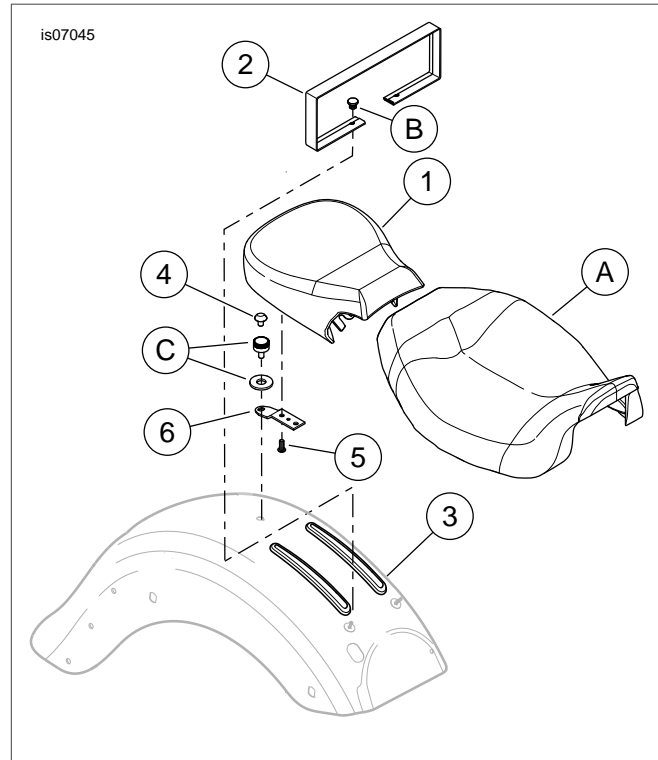

Figure 2. Service Parts: Touring Pillion
See Figure 2 and Table 1.
1. See Figure 2. If installed, remove seat mounting nuts (B) and the solo seat (A).
2. Install grab strap (2) onto the studs where the seat mounting nuts were removed.
3. Install the solo seat (A) and seat mounting nuts (B) over the grab straps.
4. Install touring pillion, through the grab strap (2), to the seat mounting nuts by sliding the two slots in the pillion base into the grooves on the seat mounting nuts. Verify that the tab at the front of the seat engages the slot.
1. See Figure 2. Remove seat mounting hardware at the rear of the pillion (C).
2. Pull pillion (1) to the rear to disengage it from the seat mounting nuts.
3. If necessary, remove seat mounting nuts (B) and solo seat (A), then remove the grab strap (2).